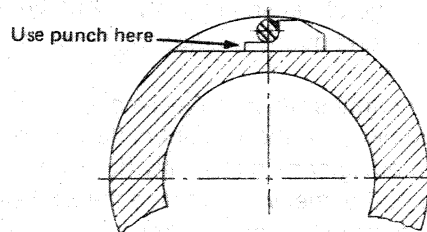

Fig. 4
5. Slide the fixed flange toward the inboard (bore) end of the sheave to expose the positioning key which retains the adjusting screw. Remove the key by driving on the portion of the key under the screw with a small punch. See Fig. 4.